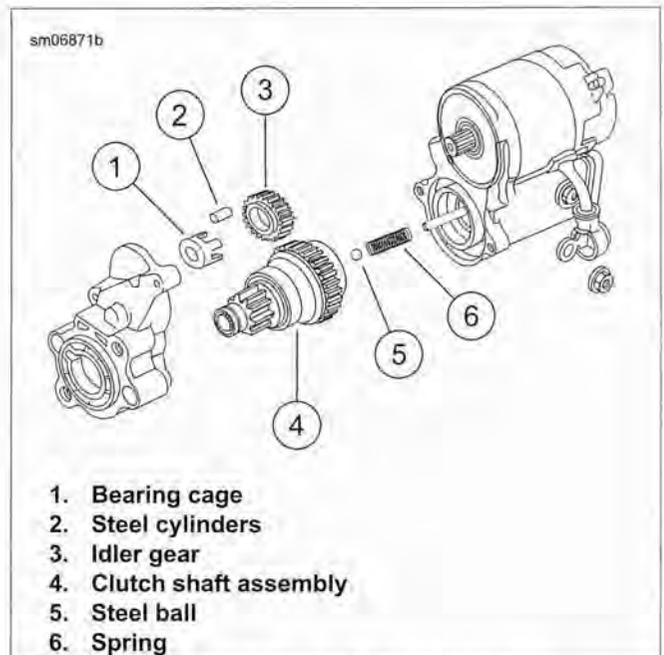

Figure 6-33. Starter Clutch Assembly
2. See Figure 6-33. Install the bearing cage (1) with the five steel cylinders (2).
3. Install the idler gear (3) over the bearing cage.
4. Match the gear teeth to the idler gear and install the clutch assembly (4) in the housing. Seat the bearing in the counterbore.
5. Install the steel ball (5) in the bore of the shaft.
6. Apply a light film of LUBRIPLATE 110 to solenoid plunger shaft. Install return spring (6) on solenoid plunger shaft.